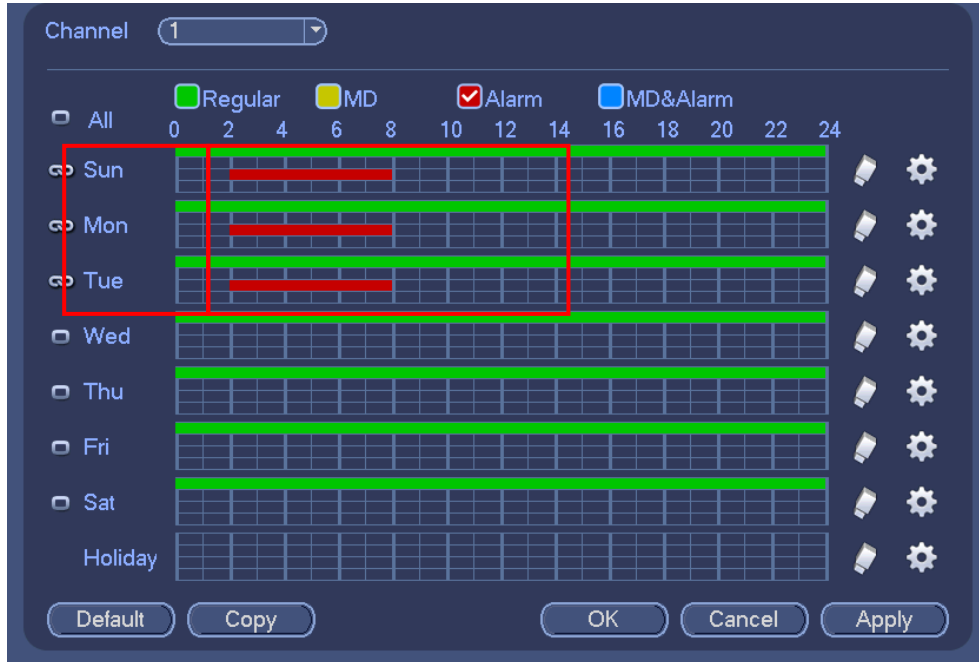

Figure 4-92
- ✧ Please draw manually to set record period. There are six periods in one day. See Figure 4-92.